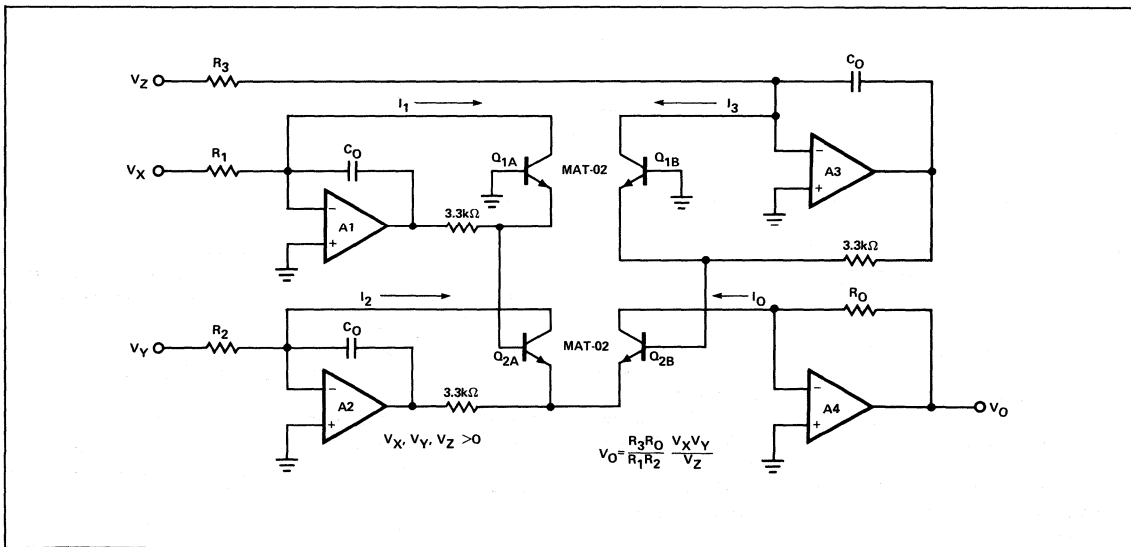

Figure 1. One-Quadrant Multiplier/Divider
The excellent log conformity of the MAT-02 over a very wide range of collector current makes it ideal for use in log-antilog circuits. Such nonlinear functions as multiplying, dividing, squaring, and square-rooting are accurately and easily implemented with a log-antilog circuit using two MAT-02 pairs (see Figure 1). The transistor circuit accepts three input currents ( $I_1$ ,  $I_2$ , and  $I_3$ ) and provides an output current  $I_O$  according to  $I_O = I_1 I_2 / I_3$ . All four currents must be positive in the log-antilog circuit, but negative input voltages can be
For the circuit shown in Figure 1, the operational amplifiers make  $I_1 = V_X/R_1$ ,  $I_2 = V_Y/R_2$ ,  $I_3 = V_Z/R_3$ , and  $I_O = V_O/R_O$ . The output voltage for this one-quadrant, log-antilog multiplier/divider is ideally:
Returning to the multiplier/divider circuit of Figure 1 and using Equation (4):
In more complex circuits, such as the circuit in Figure 1, it may be inconvenient to apply a compensation voltage to each individual base. A better approach is to sum all compensation to the bases of Q1. The "A" side needs a base voltage of  $(V_O/R_O + V_Z/R_3) r_{BE}$  and the "B" side needs a base voltage of  $(V_X/R_1 + V_Y/R_2) r_{BE}$ . Linearity of better than  $\pm 0.1\%$  is readily achievable with this compensation technique.